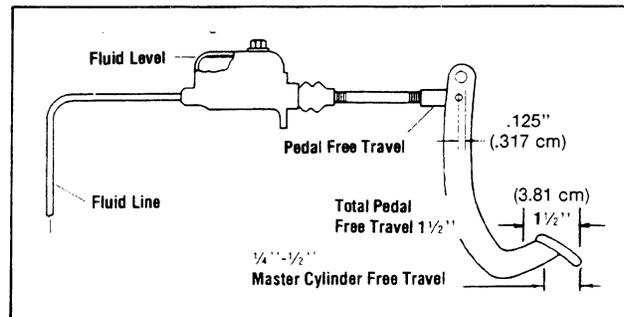

Figure 12:
1. Check clutch master cylinder actuator rod length to obtain .125 inch (.317 cm) movement of the rod before the master cylinder piston is actuated with the pedal in the full up position. This clearance is necessary to ensure full retraction of both the master cylinder and slave cylinder pistons. If adjustment should be necessary, loosen the jamb nut on the actuating rod and screw the rod “in” or “out” to obtain the recommended .125 inch (.317 cm) lash and retighten the jamb nut. (see Fig. 12).